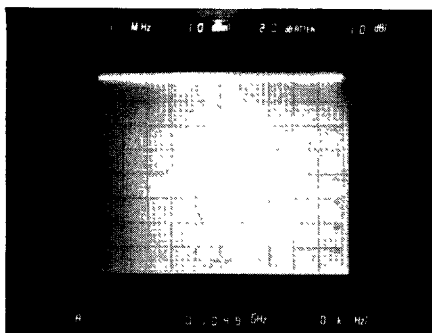

Figure 4-11. Spectrum Analyzer ZERO SPAN Display
2. adjust the TUNING control to place the trace at the top of the display; see Figure 4-11.